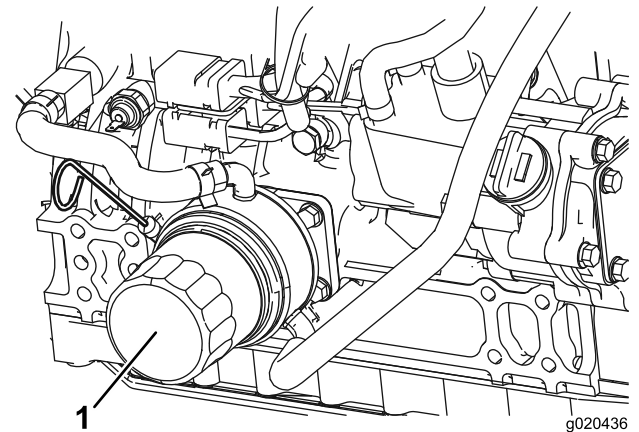

Figure 51
2. Remove the oil filter (Figure 51). Apply a light coat of clean oil to the new filter seal before screwing it on. **Do not overtighten.**